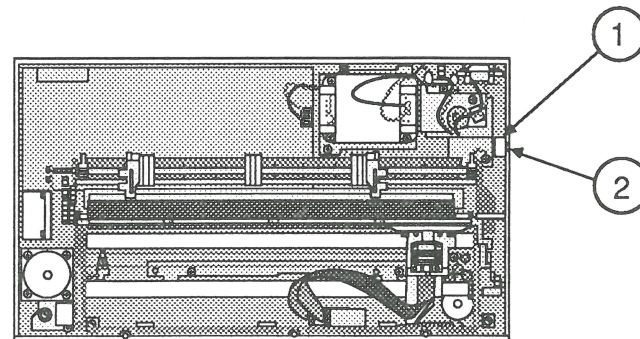

FIGURE 29
2. Remove the power switch (Figure 29, #1) from the case by pressing, with the needlenose pliers, the two plastic tabs at the sides of the switch and, at the same time, pushing the switch out of the case.
3. Remove the four power switch wires through the slot (Figure 29, #2) in the case.